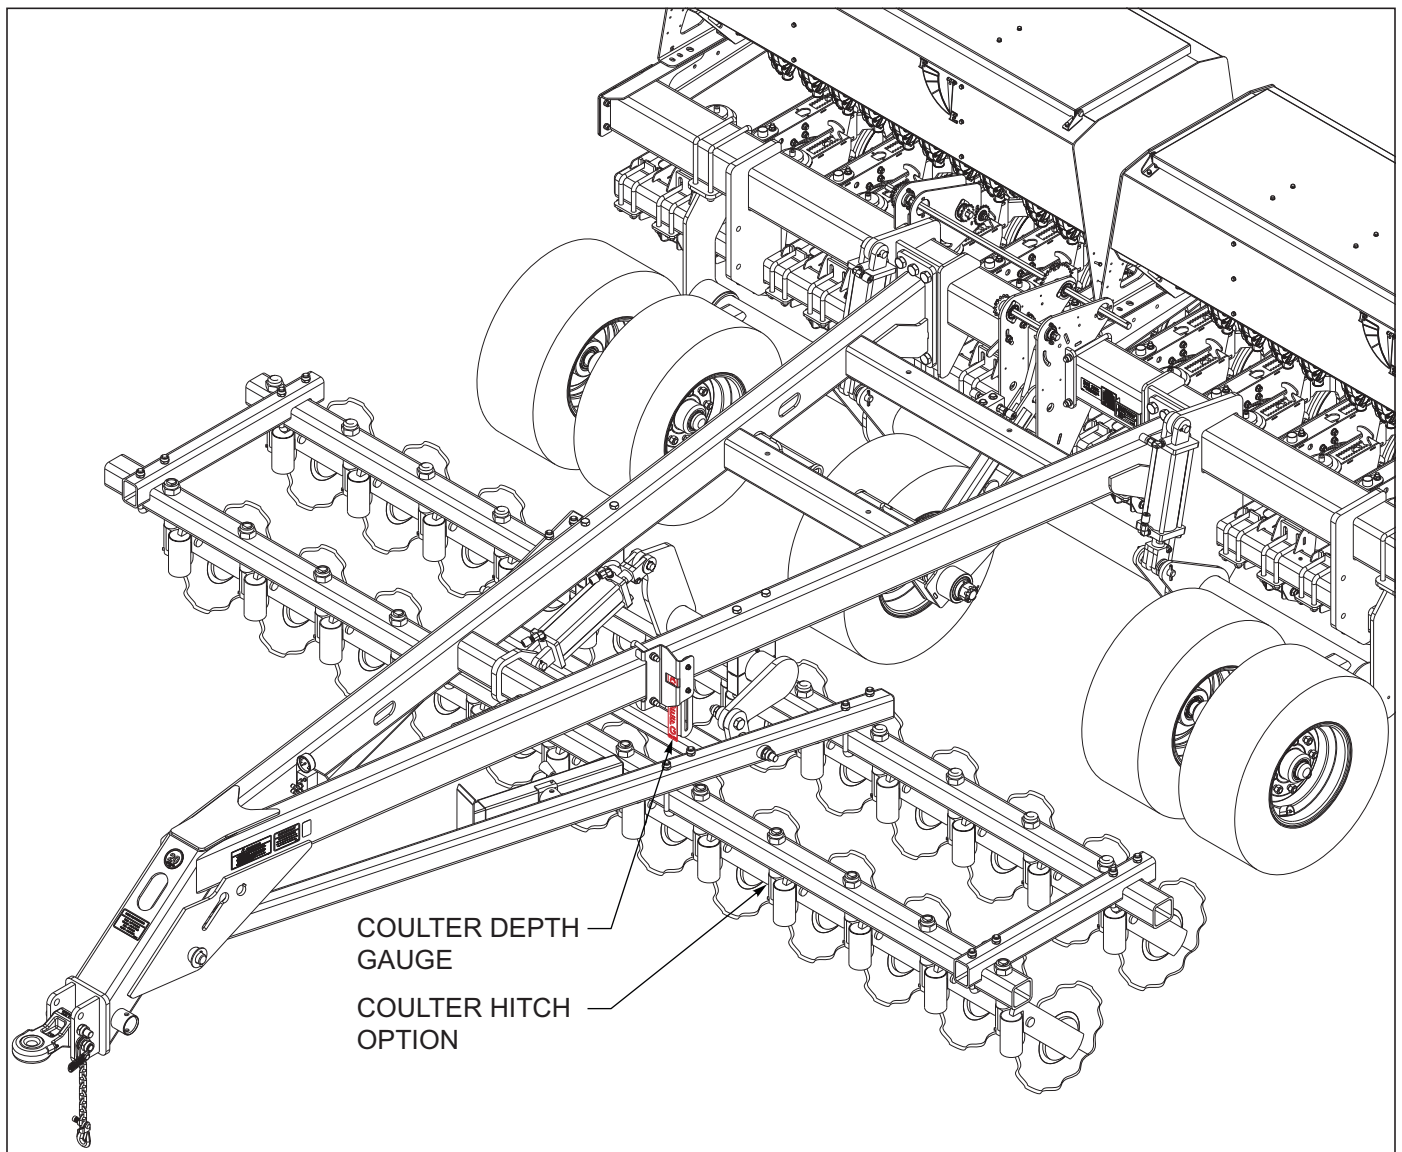

Figure 4-32: Coulter Hitch
1. The Grain Drill may be equipped with an optional coulter hitch *See Figure 4-32*. Coulters may be used to provide additional tillage in front of the openers. The coulters operate on a separate hydraulic remote which operates independently of drill. A reference depth gauge is located on the left side of the hitch for coulter depth.